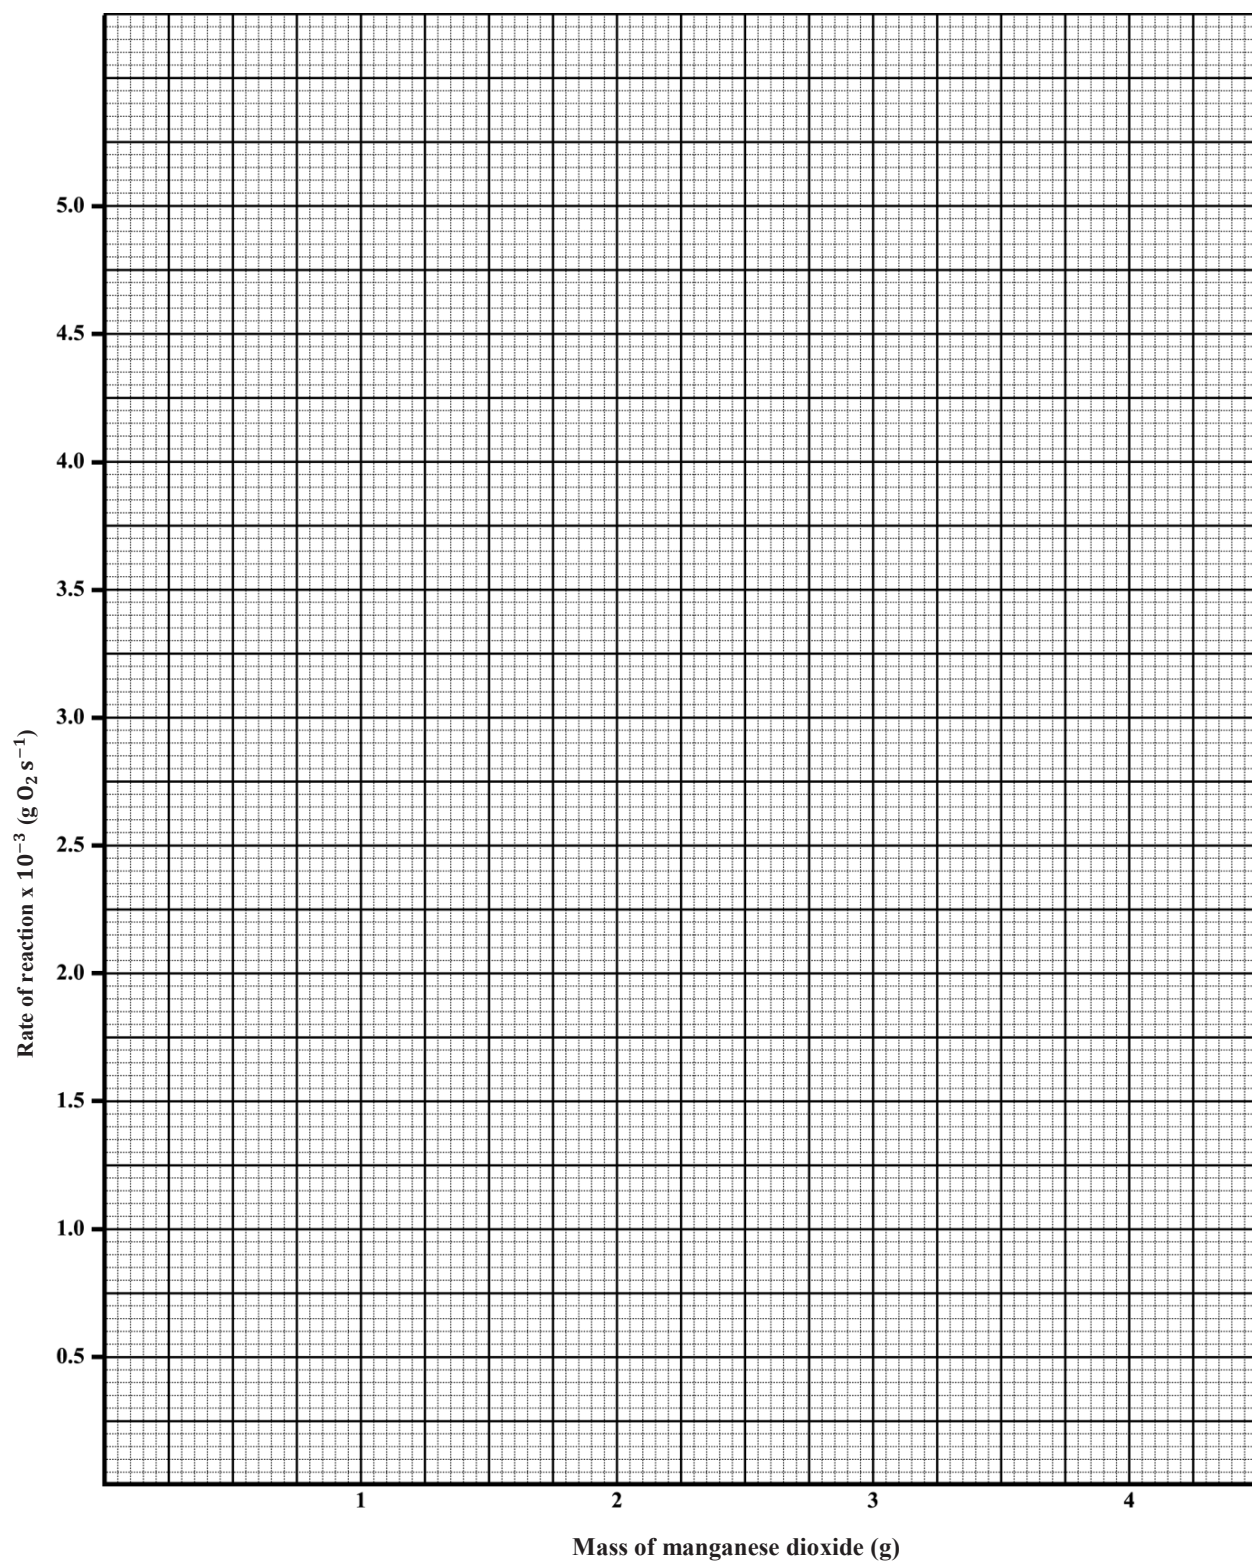

Figure 1. Rate of reaction versus mass of manganese dioxide
- (iii) Use the axes in Figure 1 on page 3 to plot a graph showing rate of reaction versus mass of manganese dioxide.
- (viii) Steve conducted another experiment to compare the rate of decomposition of 0.3 mol dm^{-3} hydrogen peroxide using the same amounts of MnO_2 . On the same axes in Figure 1, sketch a graph to show how the rate of production of oxygen compares with that from Experiment 1.